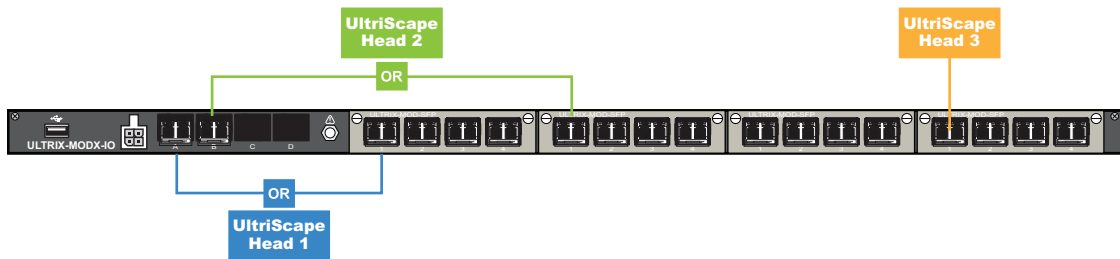

Figure 13 Example of UltraScape Head Mapping on a Single ULTRIX-HDX-IO Blade
- Up to one Multiviewer Head (refer to **Figure 13**)
Figure 13 illustrates the connections allocated for UltraScape Heads on an ULTRIX-MODX-IO with four ULTRIX-MOD-SFP.